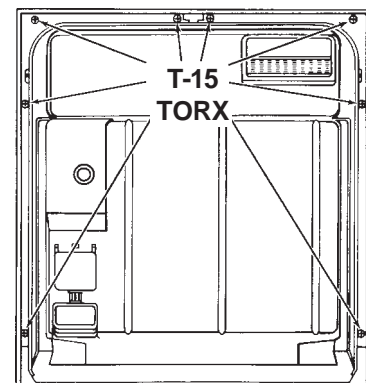

Fig. 2-12
3. Open the dishwasher door and remove the eight (8) T-15 Torx screws securing the inner door panel from the door frame. (Fig. 2-12)